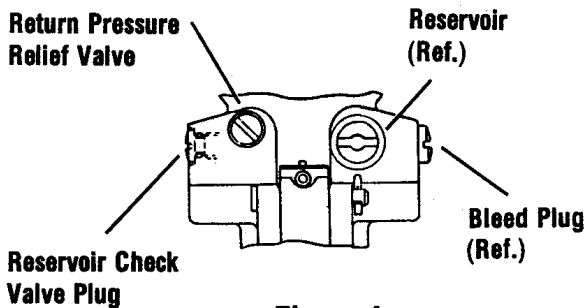

Figure 4.
1. Screw in Stall Nut, P/N 84213, or nose assembly collet onto piston rod. Loosen Return Pressure Relief Valve Plug until fluid seeps out. Figure 4.
4. Unlock fill tool. Loosen Reservoir Check Valve Plug, Figure 4, and allow a few drops of fluid to drain out. Tighten Plug.